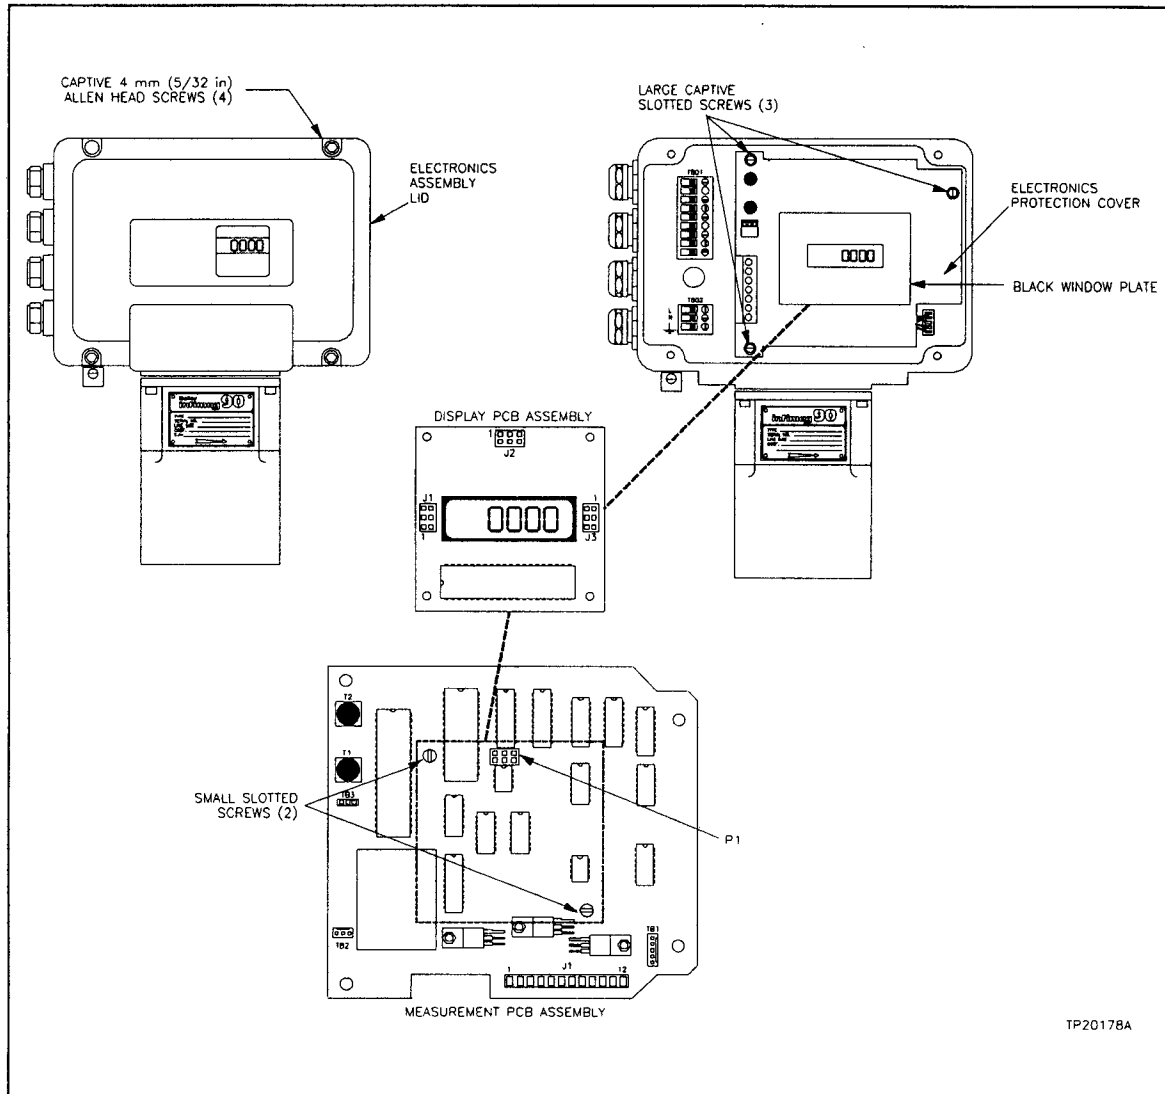

Figure 3-5. Removing the LCD
To aid in viewing, the LCD rotates 90 degrees clockwise and 90 degrees counterclockwise. See Figures 3-5 and 3-6 for illustrations of LCD rotation.
2. Use the 4 mm allen key to loosen the four captive allen-head screws that secure the flowmeter electronics assembly lid (Figure 3-5).